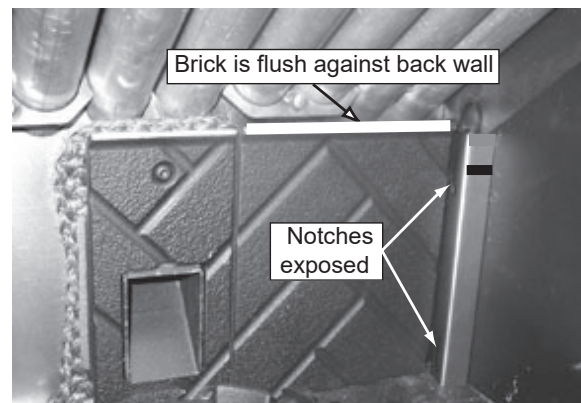

Figure 26.5
2. The brick will be flush against the back wall and notches exposed in the side bracket (**Figure 26.5**).